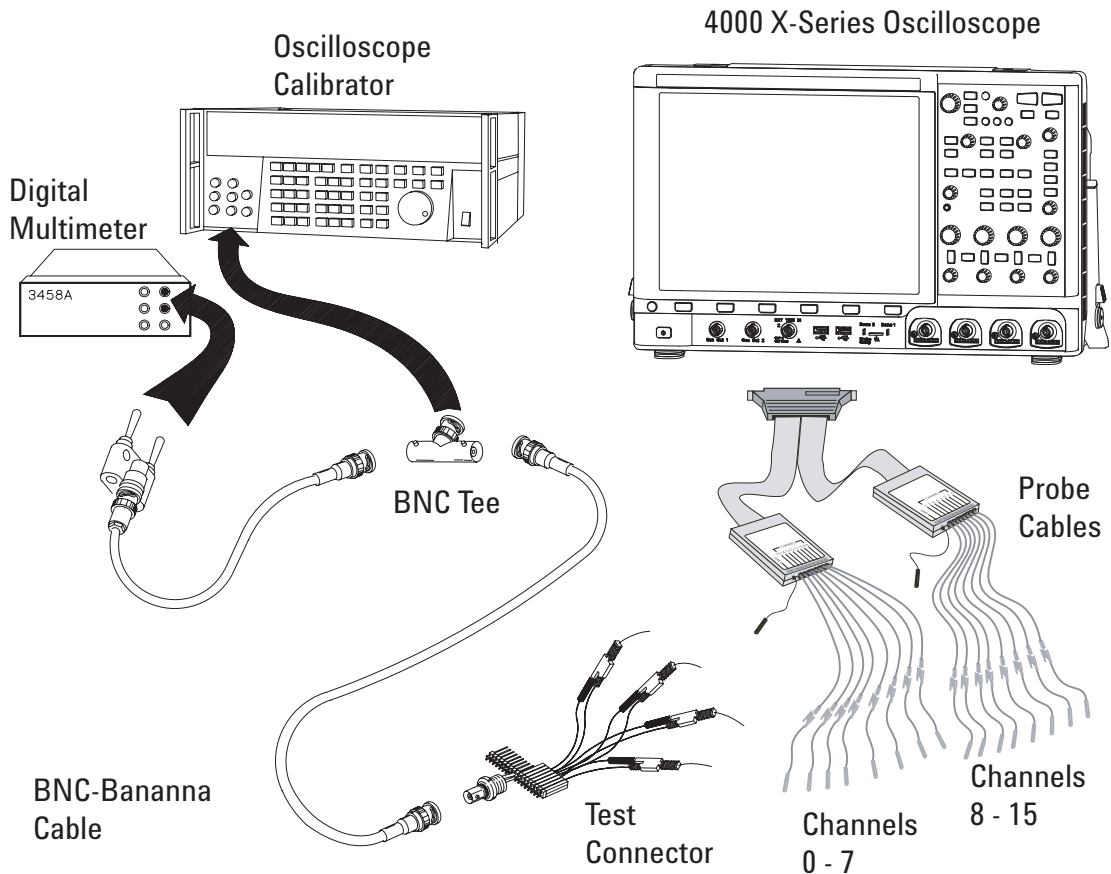

Figure 2 Setting Up Equipment for Digital Channel Threshold Accuracy Test
- 3** Use the 8-by-2 test connector and the BNC cable assembly to connect digital channels D0-D7 to one side of the BNC Tee. Then connect the D0-D7 ground lead to the ground side of the 8-by-2 connector. See Figure 2.
- 5 Connect the BNC Tee to the Channel 1 output of the calibrator as shown in **Figure 2**.